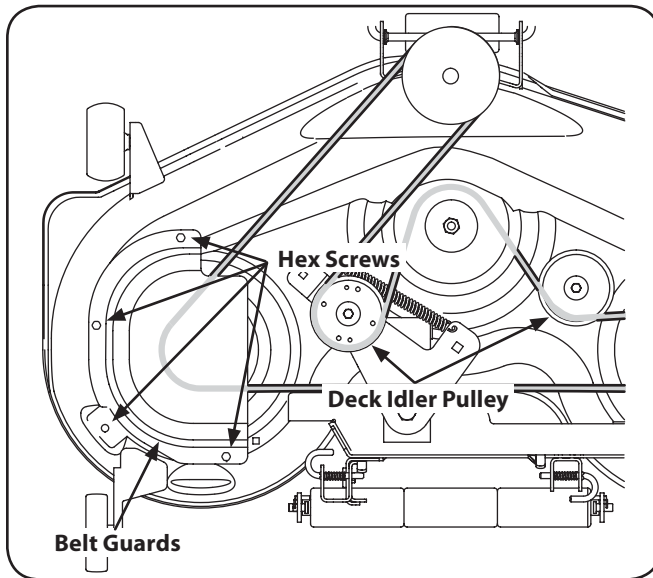

Figure 7-8
2. Remove the belt guards by removing the hex screws that fasten them to the deck. See Fig. 7-8.